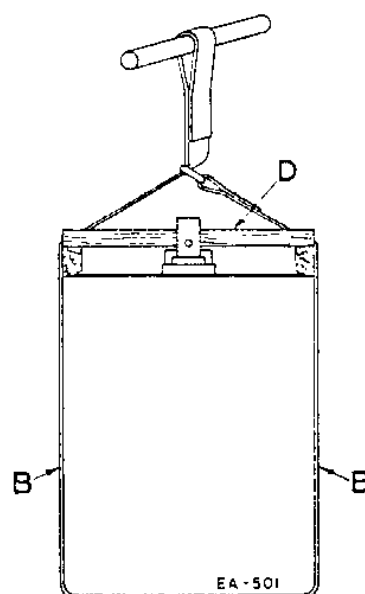
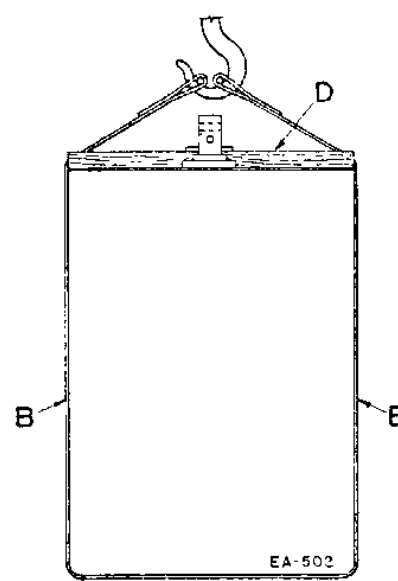

Fig. 19
Fig. 20
a. The cells are shipped in (1) Wire Bound boxes, assembled on a pallet, or (2) Nailed wooden boxes. For lifting the large "E" and "F" types there is packed in a separate box with other accessories, a rubberized belt, and a wood spreader. Figs. 19, 20. Depending on the cell size, handle cells in the following way:
d. For EME-17 to 25, EOE-23, 29 and all "F's" — Tilt a cell about one inch to locate rubber belt underneath. Place wood spreader on top of cell, beveled ends up. For these "E" sizes, thread free end of belt through link (Fig. 19). Introduce bar through free end of belt for lifting. For the "F" sizes, bring belt ends together over spreader (Fig. 20). Introduce hook of lifting device through holes in belt ends. Always lift vertically and balance cell. Remove belt after setting cell in place. Do not lift by grasping cell posts.